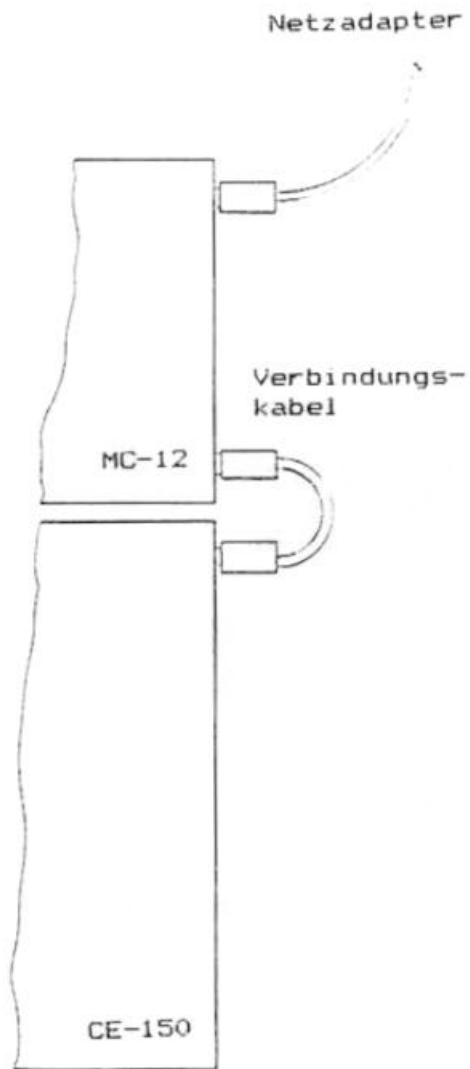

Figure 2-1
The MC-12 is supplied with a short cable that connects the MC-12 and the CE-150. The options shown in Figures 2-1 and 2-2 are available.
If **ERROR 78** or **ERROR 80** occurs and you want to continue working with the mains adapter, the PC-1500(A) computer must be switched off and the mains adapter connected as shown in Fig. 2-1. After approx. 2 minutes, operation can continue, and the mains adapter can be connected as shown in Fig. 2-1. Operation can be continued without waiting.